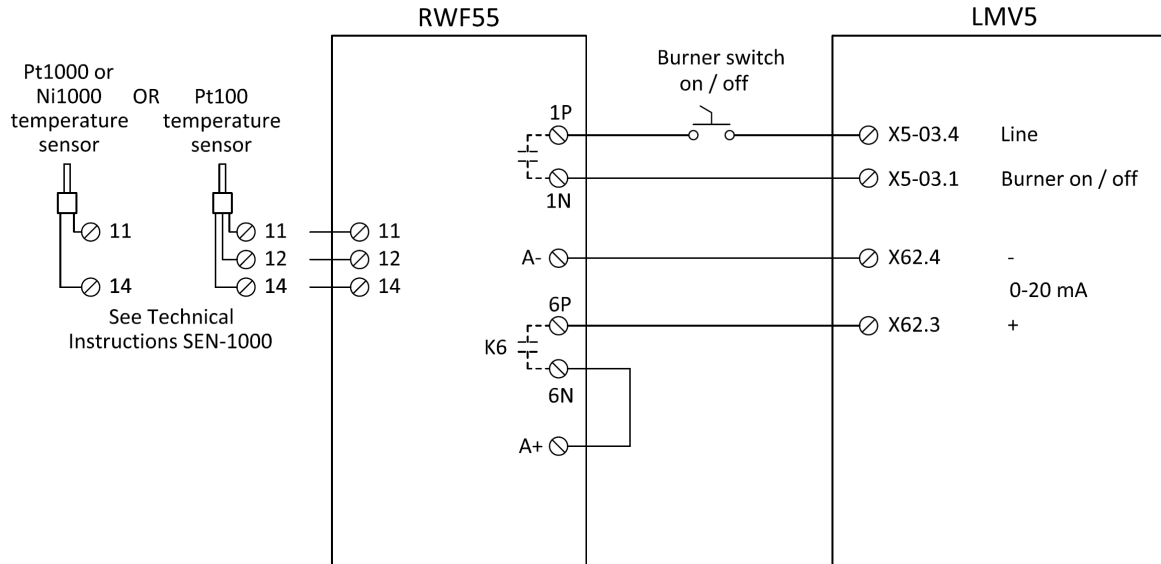

Figure 5: Low Fire Hold via Analog Output on a Hot Water Boiler
- Wire the LMV5 and RWF55 as shown in Figure 5: